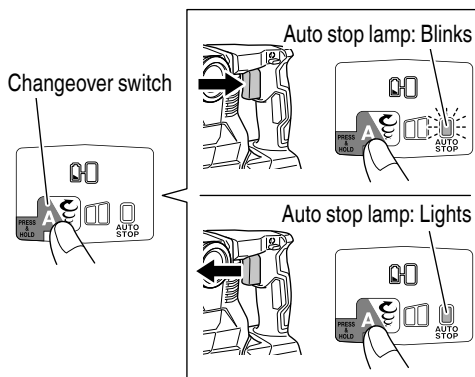

Fig. 30
- Auto stop mode (on/off) (Fig. 30)
In selection mode, pressing the button for longer than two seconds will move to memory mode. (Fig. 30)